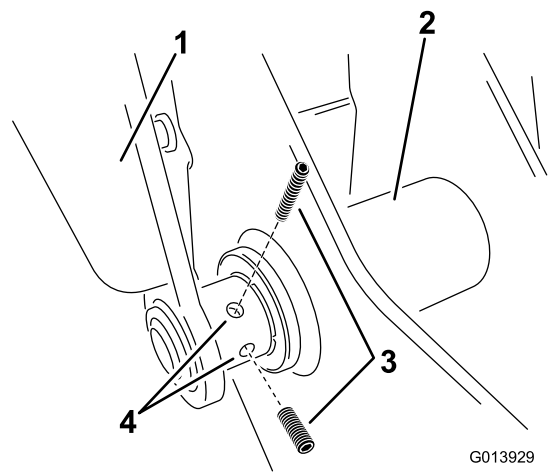

Figure 6
15. Install 2 set screws to the left arm at the lower hinge point (Figure 6).